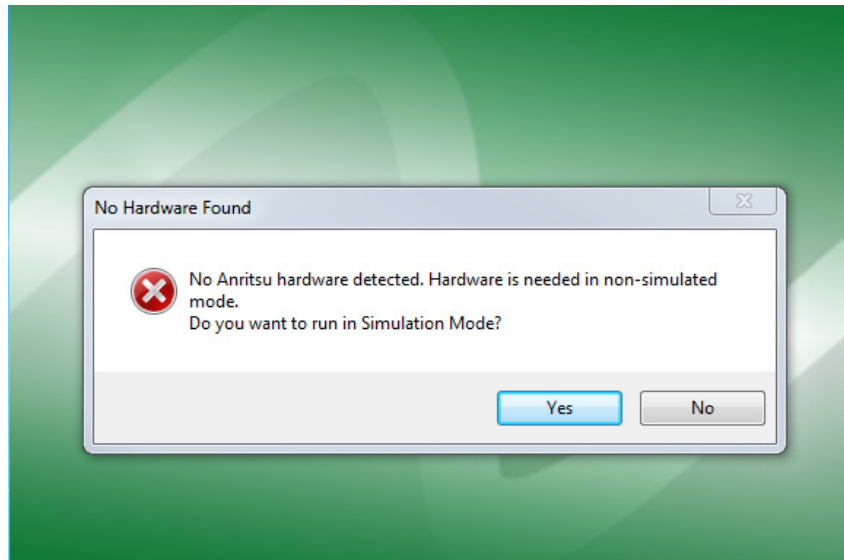

Figure 3-6. ShockLine GUI Initialization Screen
- From the NO HARDWARE FOUND dialog box, Figure 3-6, select YES to run in Simulation Mode.